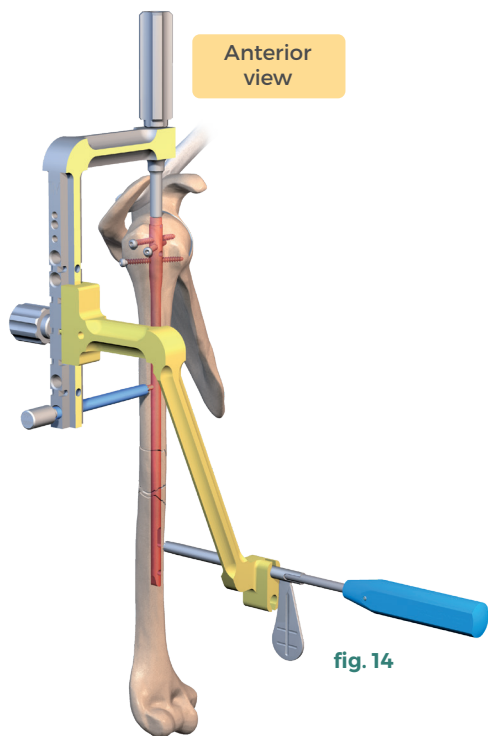

fig. 14
· Insert the D3.1 mm blunt tip drill guide sleeve (ref. 270 822) into the aiming sleeve (ref. 253 678), until contact is made with the diaphyseal cortical bone and checking for an absence of stress on the soft tissue from the sleeve (fig.14).